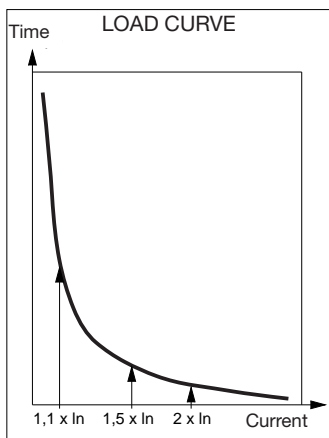

Fig.1
1. Protection against overcurrent is usually provided by thermal cutouts with operation based on the principle of the thermal dilation of a bimetallic strip sensitive to the overheating produced by an excess absorption of current. (Fig. 1)